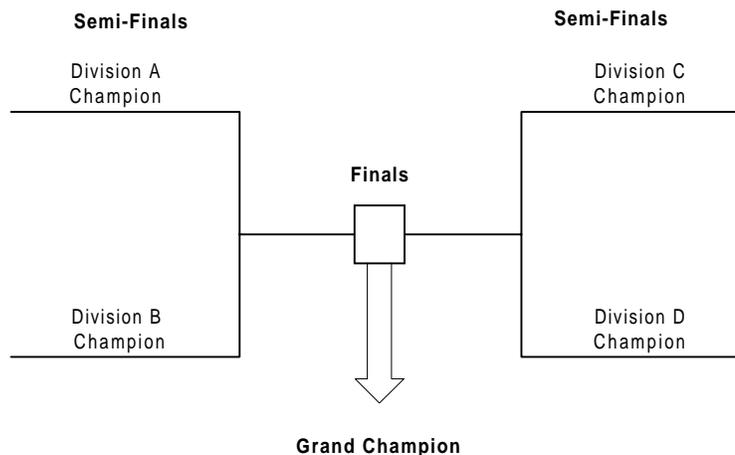

Figure T-2
- For The Championship Event Championship:** All match series are the best 2 out of 3. Division Champions compete against each other in a series of semi-final matches. For the semi-finals, the Division Champions will compete against each other based on the divisions they came from and will not be ranked relative to each other. The exact division pairings will be announced in the future on the FIRST web site after the division names have been finalized. The winners of the semi-final matches then compete in a series of matches with the winning alliance becoming The Grand Champions. See *Figure T-2 below*.